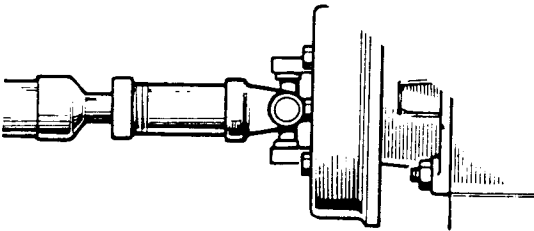

Fig H4.3
- (2) **Rear propeller shaft:** Refer to Fig H4.3. Locate the shaft in position with the sleeve end towards the gearbox.